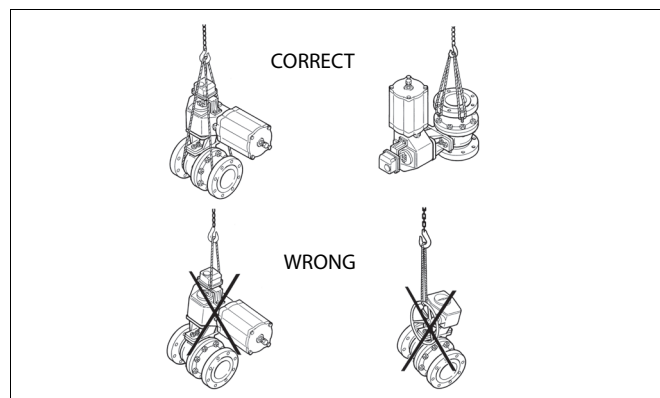

Fig. 9 Lifting the valve
Place the lifting ropes securely around the valve body (see Fig. 9).
- ☐ Support the valve carefully with a hoist. Place ropes carefully and unscrew the pipe flange bolts. See that the ropes are positioned correctly, see Fig. 9. Lift valve down.